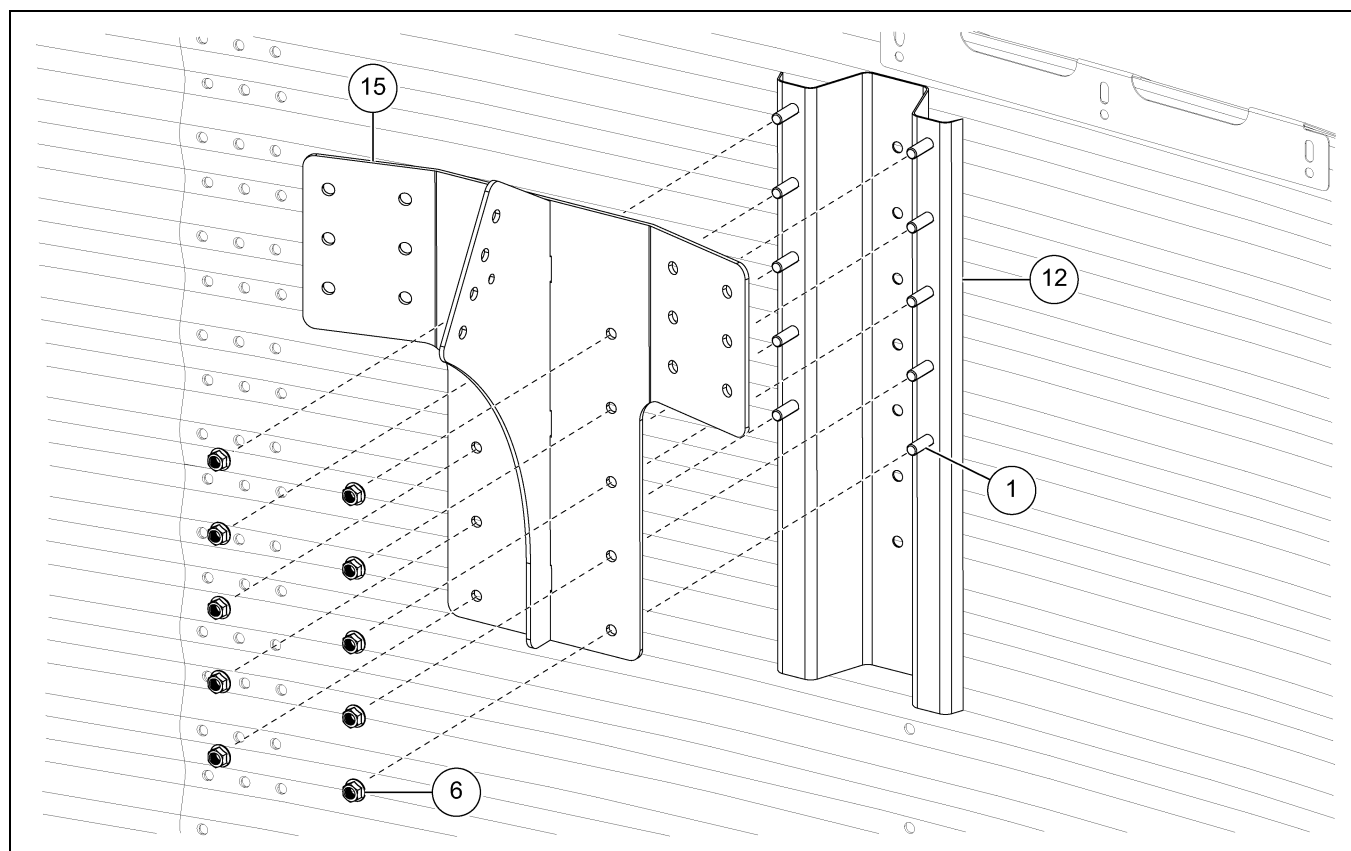

Figure 4F *Attaching the Eave Bracket to the Inside Stiffener*
1. Install the eave bracket (15) to the inside stiffener (12) flanges using 3/8" x 1-1/2" flange bolts (1) and 3/8" flange nuts (6). *(See Figure 4F.)*